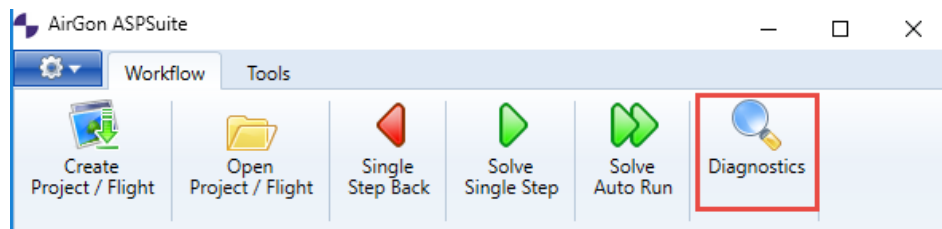
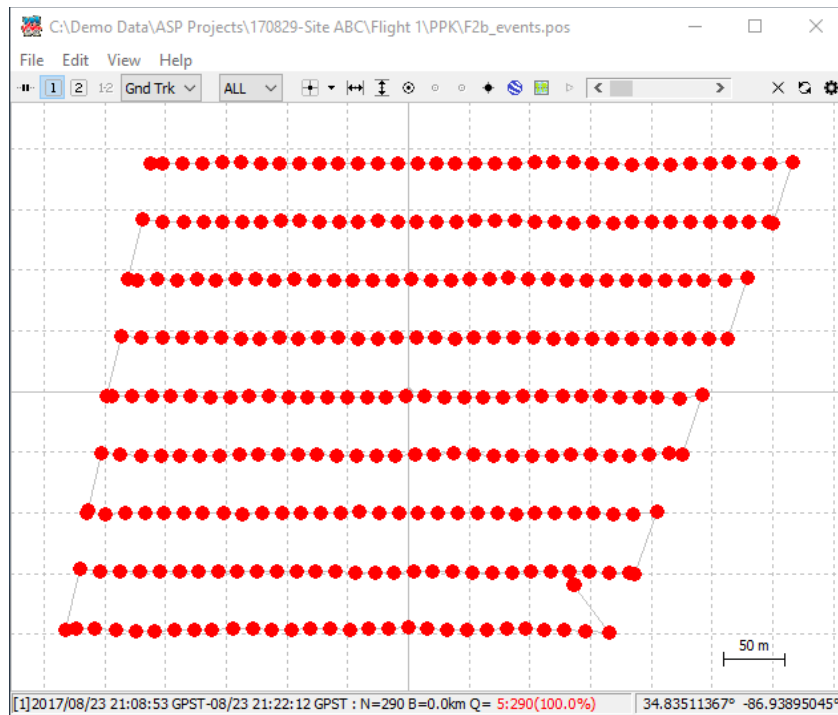

Figure 23 – Diagnostics
Figure 24 – Events
17. Once complete, click *Diagnostics* (Figure 23) to view the event positions. Observe the events (Figure 24) and check for large gaps. Also, check to make sure the flight lines match those in the flight plan. Getting 100% Q1 events is the correct result (see bottom of diagnostics window), but will not be achieved during the field check. This means that the positions are fixed (2cm or less). Q2 events mean that a “float solution” and will not provide the necessary accuracy needed. Q5 events usually mean that the files are incorrect or missing. Q5 is the expected result during the field check because the base station observation file has not been imported yet. Note that there is a text file called xxxxxxxxxxxx_event.pos in the PPK folder under the Flight folder. The last column in that file shows the Quality (Q) of each GPS event (Figure).